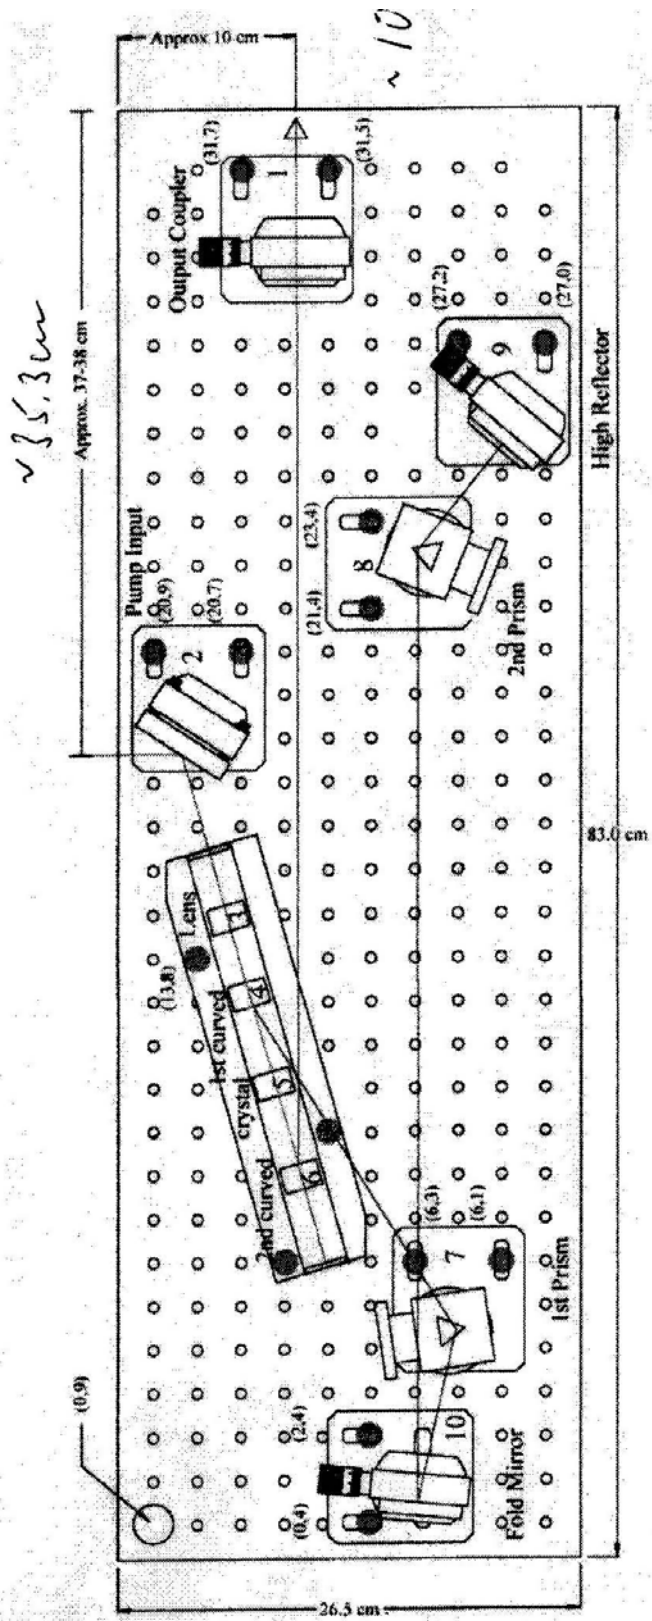
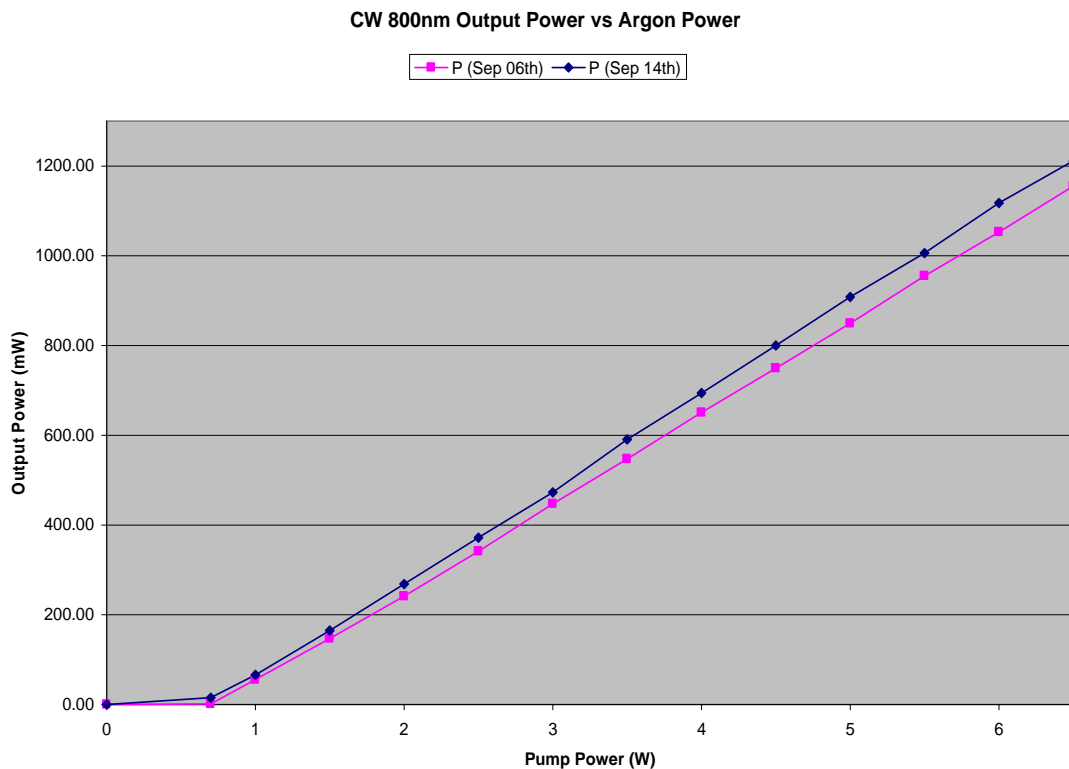

Figure 1. A schematic diagram of the optical elements in the MTS Ti:Sapphire laser.
Figure 2. CW output power at 800 nm.
- The factory settings of all micrometers were recorded and agreed with the settings given on page 10 in the manual for CW. The layout of the optical elements of the laser is shown in Figure 1.
- The pump beam should pass through the entrance aperture tool placed before the focusing lens (3) and the iris in front of the output coupler (1). One should always use these two points as reference for walking the pump beam into the laser cavity.
- The laser was lasing at 800nm with a line-width of about 1nm and the new separations of the optical elements were recorded as on page 10 in the manual. At 4.5 W of Argon laser, about 750 mW of CW operation was obtained when the system was first lasing on September 6, 2006 (as shown in Figure 2).